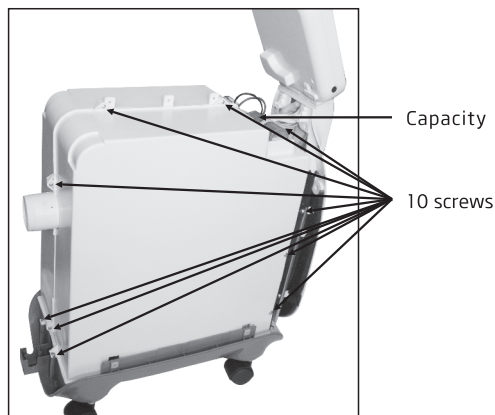

Figure 18
- › Unscrew 10 fixing screws in the inside cabinet, push out the capacity in the direction of the wiring harness, and take off the inside cabinet. (Figure 18)